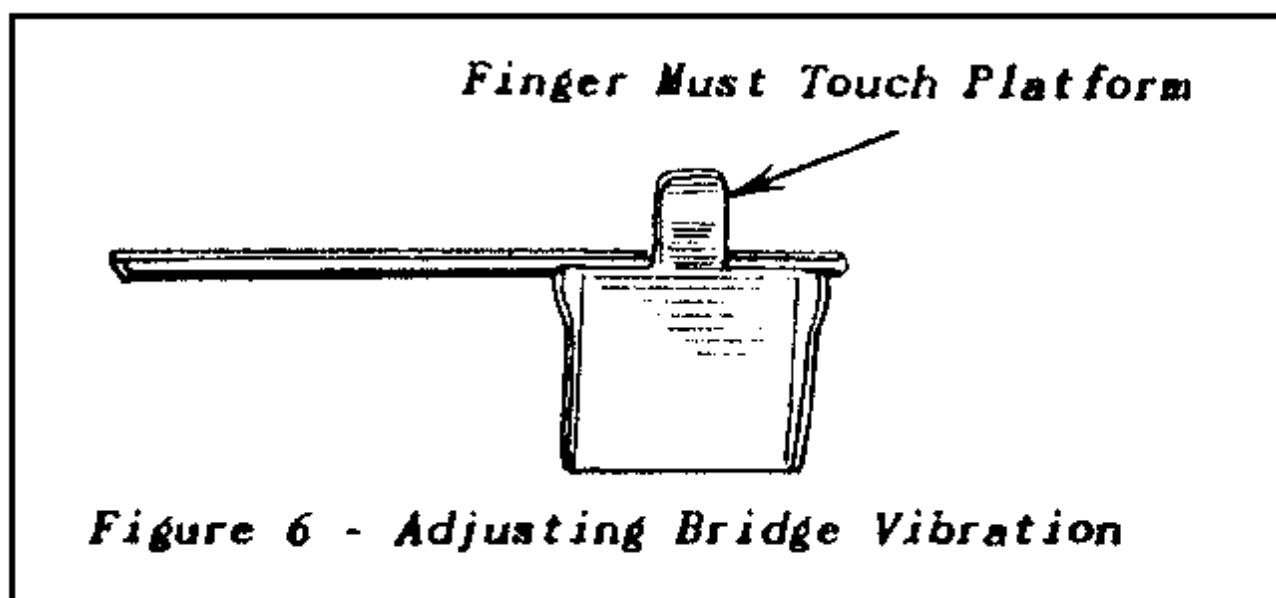

Figure 6 - Adjusting Bridge Vibration
1. *Aligning Platform Bridge.* Bridge ramps must align with the car floor. To adjust remove front fence and, holding the center of the connecting bar with a pair of pliers, adjust one of the bridges to proper height. Then bend the finger of the other bridge (Figure 6) until it makes contact with the floor of the platform when the bridge is lowered. The finger serves to transmit vibration from the floor of the platform to the bridge.